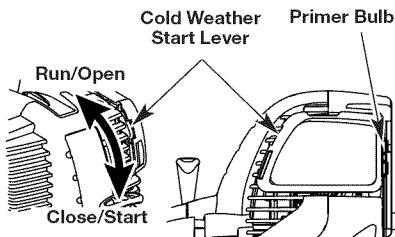

Fig. 10
IF COLD... For cold weather conditions (below 40°F), flip the cold weather start lever (Fig. 10) down to the start/closed position and continue to step 3. DO NOT flip this lever down if the temperature is above 40°F.
3. Fully press and release the primer bulb 10 times, slowly. Some amount of fuel should be visible in the primer bulb (Fig. 10). If fuel can not be seen in the bulb, press and release the bulb until fuel is visible.